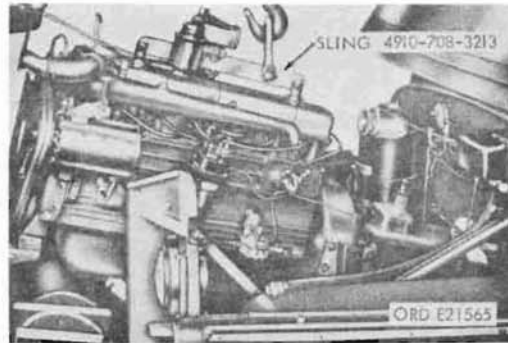

Figure 100. Removal of power plant from truck
h. Remove Power Plant (Fig. 100).
- (1) Install engine and transmission lifting sling. Attach engine and transmission lifting sling 4910-795-0121 to suitable hoist. Center the hoist over the power plant and attach the lifting sling to the lifting eyes.
- (2) Hoist power plant from truck. Check to be sure all the disconnects have been accomplished and the lines, tubes, hose, cables, etc., are away from power plant. Carefully lift power plant, using a series of short lifts, until radiator and engine support will clear